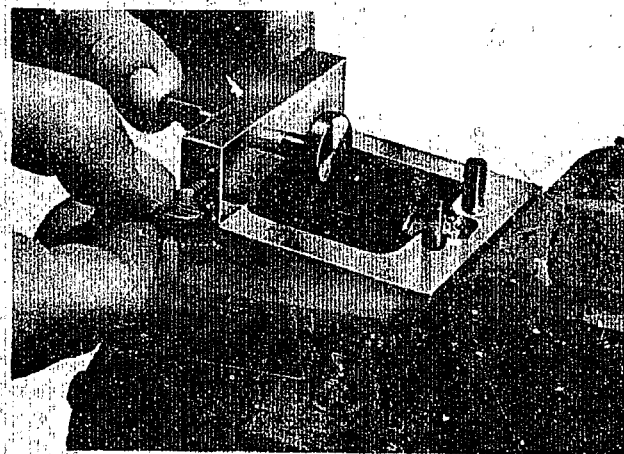

Figure 3 - Locating "K" Dimension With TSE 79100 Tool
- 2.5 Push footed pin until it touches upper vertical face of adjustable stop plate making certain that eccentric foot of pin is touching only the UPPER STOP PLATE FACE (see Figure 3).